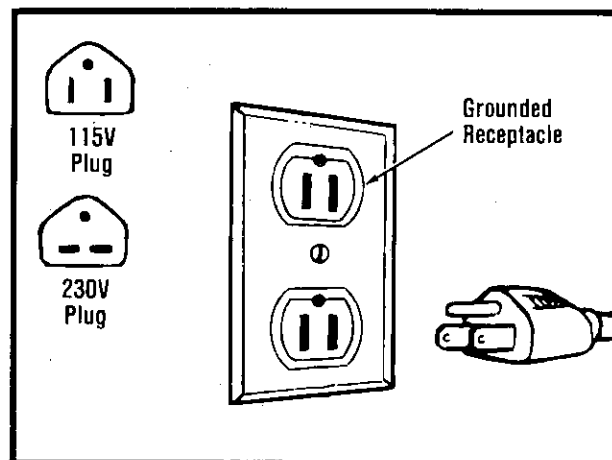

Figure 3. No. 400A Power Drive Grounding Instructions.
3. **Ground Power Drive (Fig. 3).** This Power Drive should be grounded while in use to protect the operator from electric shock. The Power Drive is equipped with an approved three-conductor cord and three-prong grounding type plug to fit the proper type receptacle. The green (or green and yellow) conductor in the cord is the grounding wire. Never connect the green (or green and yellow) wire to a live terminal. If your unit is for use on less than 150 volts, it has a 115V plug. If it is for use on 150 to 250 volts, it has a 230V plug.